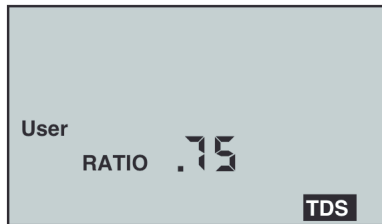

Figure 4
- b. Press $\frac{\text{CAL}}{\text{MCLR}}$ twice (to skip over tempco adjustment) and “**RATIO**” will appear (see Figure 4).